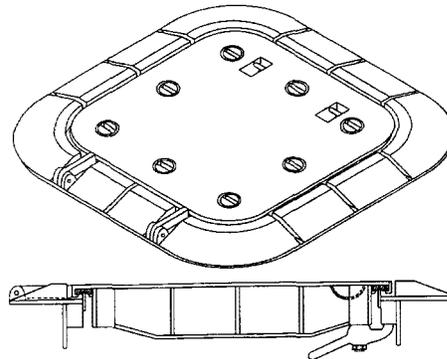

Figure 1-9. Ramped Low Profile Hatch (6,000 Lb Wheel Load)
- i. Flush Watertight Hatches (6,000 Lb Wheel Load) and Ramped Low Profile Hatches (6,000 Lb Wheel Load). (See figure 1-9). The 6,000 lb wheel load flush watertight hatch is not illustrated.) These types of hatches are spring-balanced and are installed in areas such as flight decks, hangar decks, cargo decks, passageways, or areas of high traffic that may be subject to wheel loads of up to 6,000 lbs (maximum). For exterior installa-